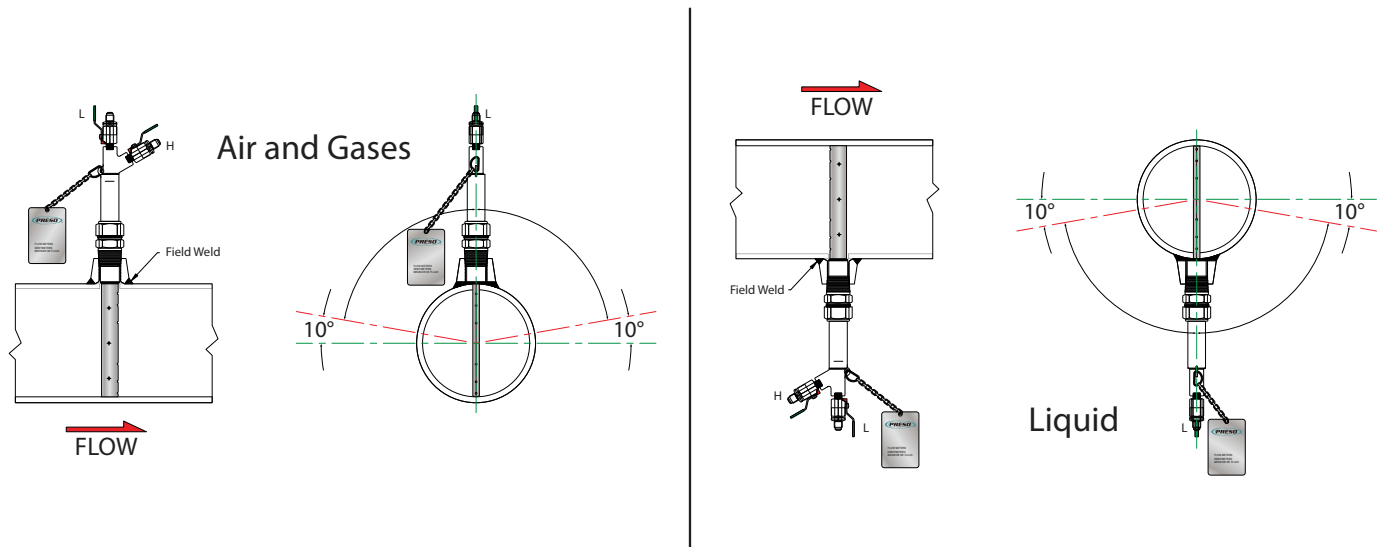
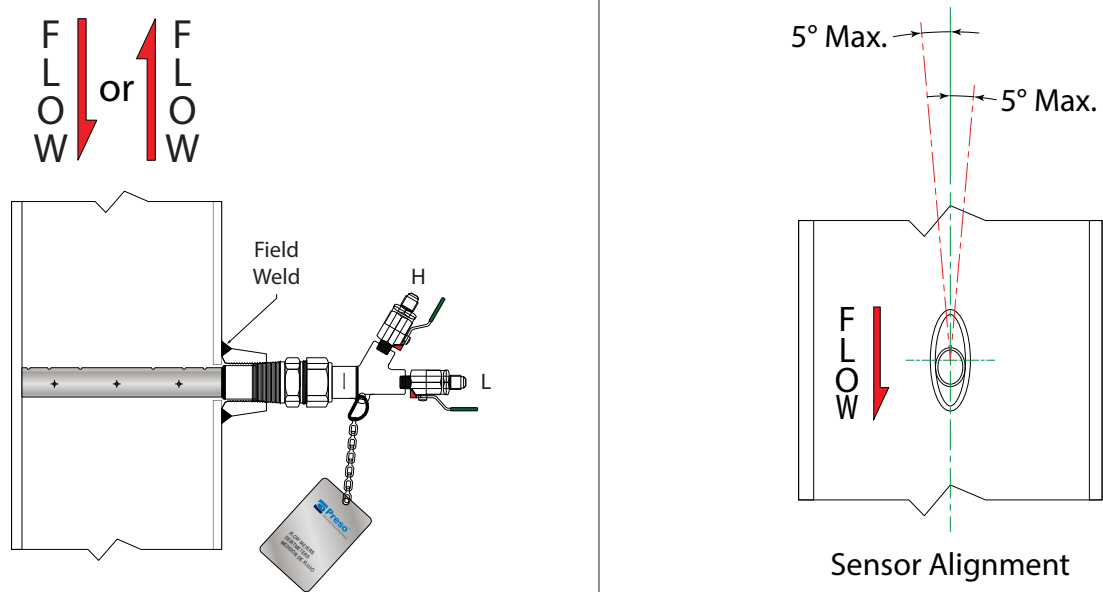

Figure 2: Horizontal pipe installation
Figure 3: Vertical pipe installation
NOTE: The preferred flow direction for air and gas is downward. The preferred flow direction for liquid is upward. Figure 3 represents installation for downward flows.
1. Choose the proper location to install the BAR Ellipse using AGA/ASME standards (or equivalent). See Figure 2 and Figure 3.